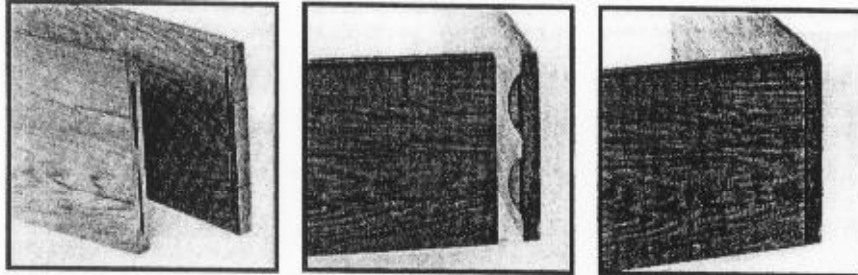

Fig. 8
9. Repeat steps 5 through 8 until all the grooves for this joint are completed, see Fig. 8.